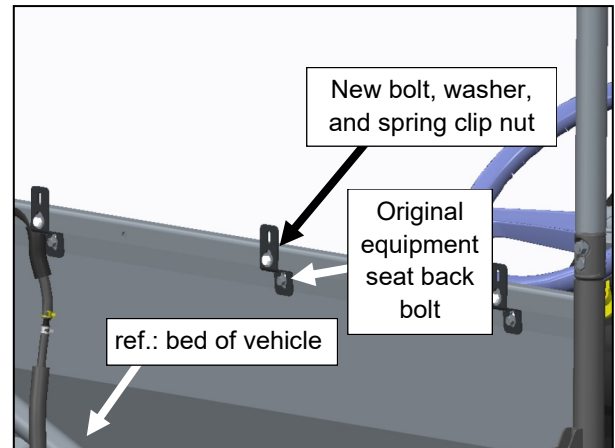

Fig. 4.2 (view from rear of passenger's side)
4.2 Lift the dump bed. Per fig. 4.2, install the rear panel lower mount assembly as follows: insert the spring clip nut into the empty hole above the upper center seat back bolt (oriented so the threads are towards the front of the vehicle), temporarily remove the upper center seat back bolt, place the rear panel lower mount assembly in position and oriented as shown, re-install the original equipment seat back bolt into the lower slot. Use caution to avoid cross threading the threaded insert. Start thread engagement by hand. Install a new 1/4-20 x 3/4" long hex head flanged bolt into the middle slot of the assembly (engaging the threaded spring clip nut). Tighten both bolts.